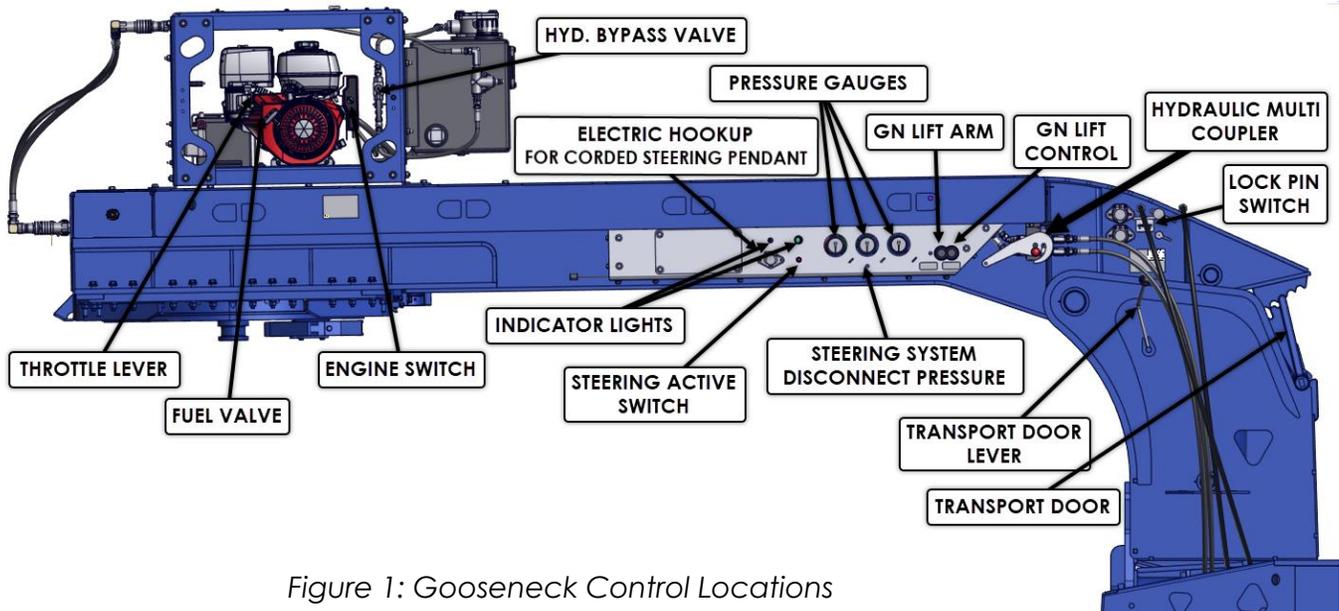

Figure 1: Gooseneck Control Locations
- Operate the **GN LIFT CONTROL** to raise the gooseneck and the trailer above the transport height (see Figure 1).
8. Raise the gooseneck off the transport lock doors by operating the **GN LIFT CONTROL** on the gooseneck arm (see Figure 1).